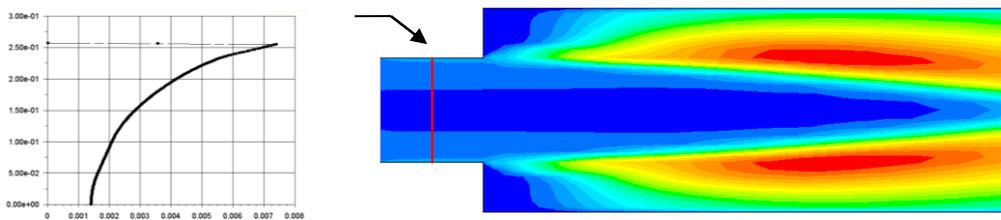

Fig. 1 The vertical and horizontal line segments at  $x=-0.0381$  and  $r=0.07271$ . One has to compare the numerical results with experiment along these lines.
18. Compare the numerical results with experimental data (included in the folder *exper-data*) along the vertical line  $x=-0.0381$  and along the horizontal line  $r=0.07271$ . Fig. 1 shows both vertical and horizontal lines. The sections  $x=-0.0381$  and  $r=0.07271$  are already defined in the \*.cas file so there is no necessity to generate them again. Use **Results/Plots/XYPlot, Load File** to load the experimental data (description of the experimental data is given below, section 'Description of the experimental data').